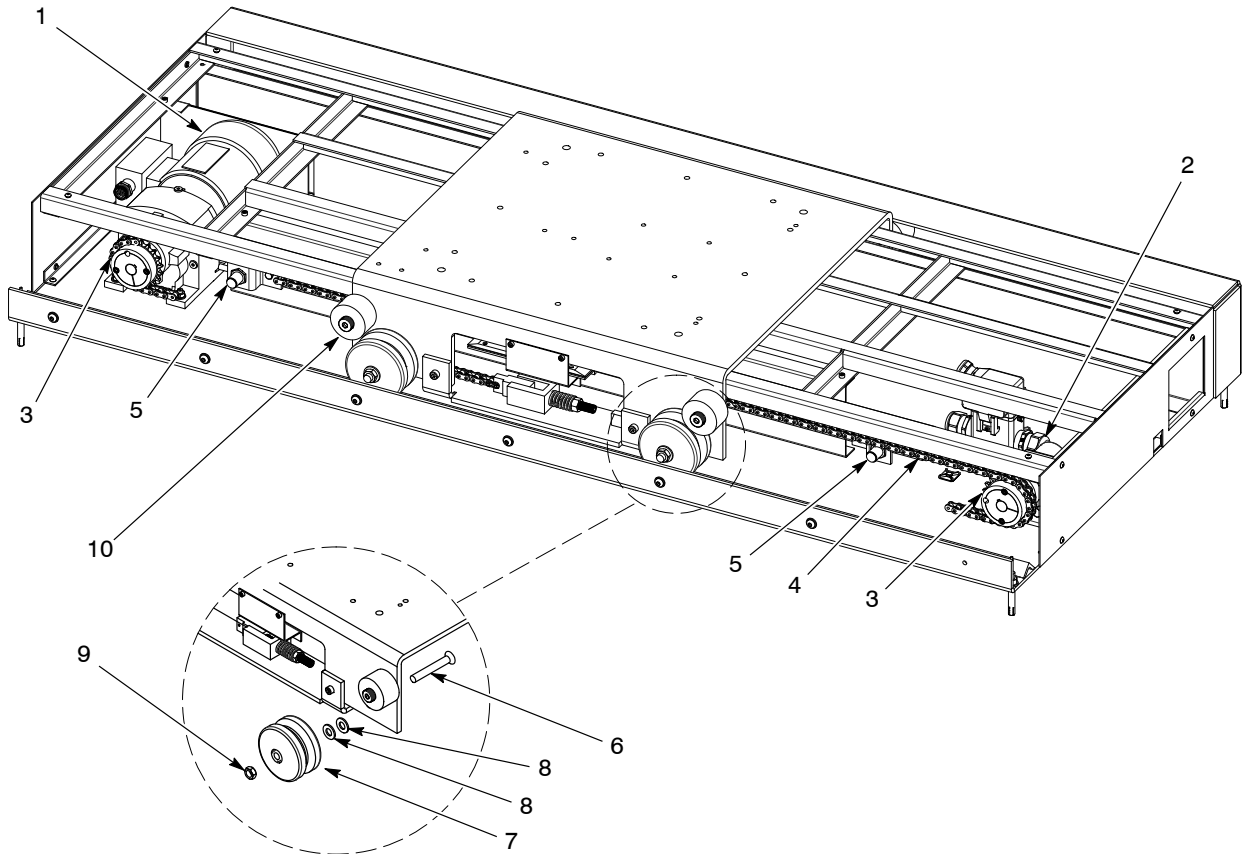

Figure 24 Positioner
See Figure 24, item 4.
See Figure 24, items 1.
See Figure 24. These parts are common to all Positioner Assemblies, except as noted.